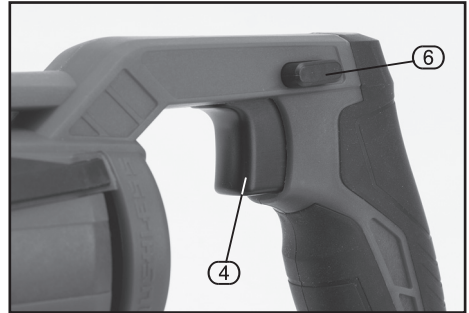

FIG.4
9.1 SWITCH AND VARIABLE STROKE RATE CONTROL – FIG. 4